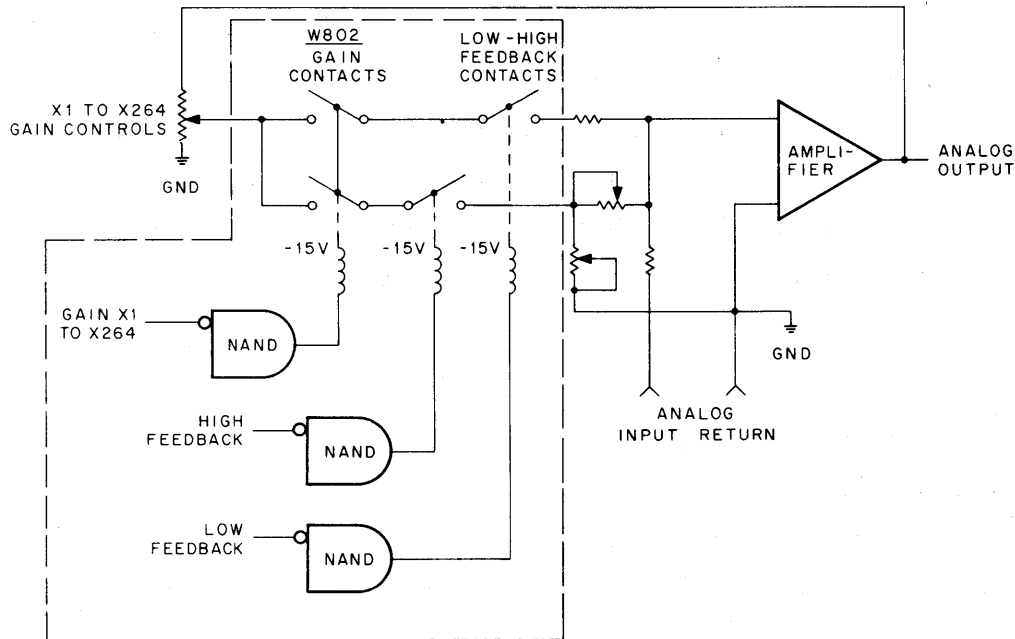

Figure 3-8 AG04 Variable Gain Amplifier, Simplified Diagram
3.4 AG04 VARIABLE GAIN AMPLIFIER (See Figures 3-8 and 6-11)